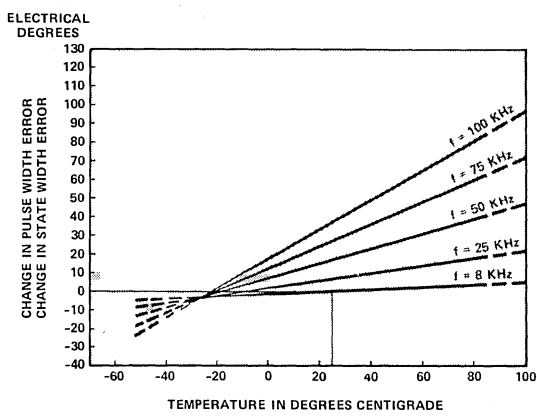

Figure 1. Typical Change in Pulse Width Error or in State Width Error due to Speed and Temperature
- In a properly assembled lot 99% of the units, when run at 25° C and 8 KHz, should exhibit a pulse width error less than 32 electrical degrees, and a state width error less than 40 electrical degrees. To calculate errors at other speeds and temperatures add the values specified in Figures 1 or 2 to the typical values specified under encoding characteristics or to the maximum 99% values specified in this note.